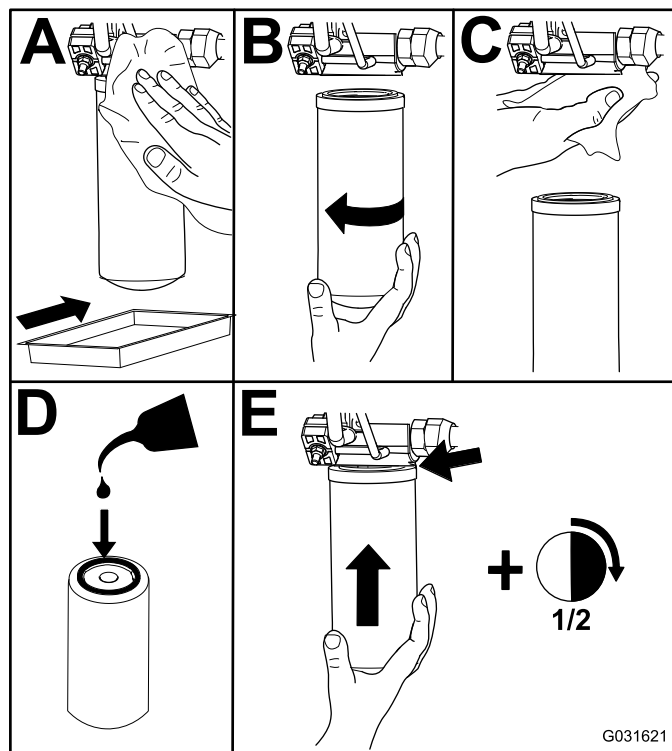

Figure 79
2. Replace the hydraulic filters (Figure 79).